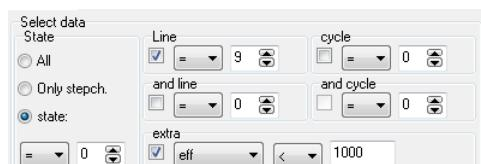

Figure 3: filter efficiency data
- Filter by "eff < 1000" (as shown in Figure 3)